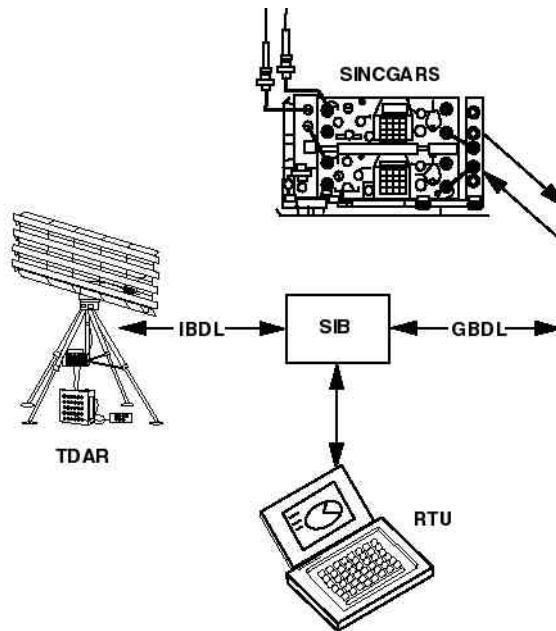

Figure 2-18. Tactical Defense Alert Radar Components.
This modular system has three subsystems (see fig. 2-18): a detection device (sensor), a processing system, and a display terminal. It weighs approximately 237 pounds when assembled. Operating temperatures range from -25° to 140°F. The TDAR is also able to operate in winds gusting up to 60 knots and can be powered by a variety of sources, 24-volt (V) power from the HMMWV, 120V household power (U.S.) with the use of the supplied power converter or authorized generator.